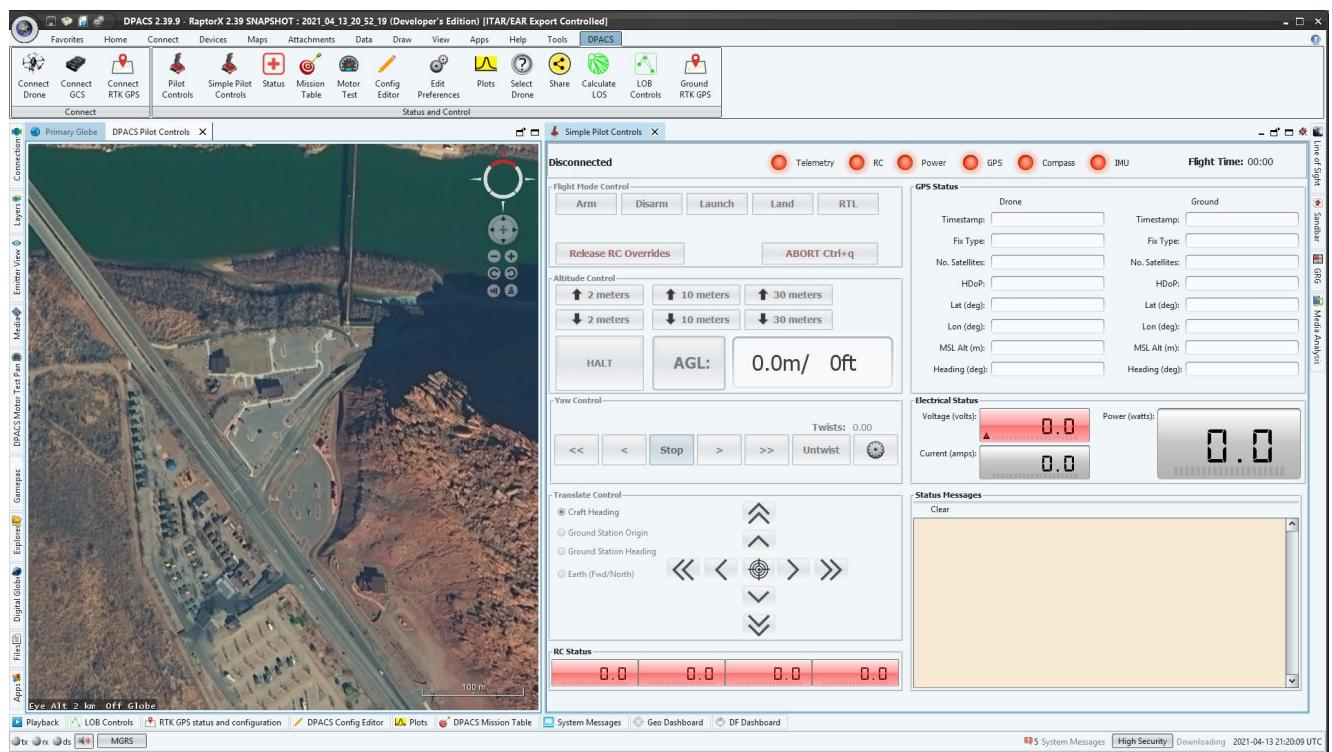

Figure 2 - Initial DPACS display showing the DPACS toolbar, Globe and Simple Pilot Control Panel
5. The "Simple Pilot Controls" and Globe panels should automatically appear expanded as shown in Figure 2. Other panels can be accessed from the DPACS toolbar. The "Simple Pilot